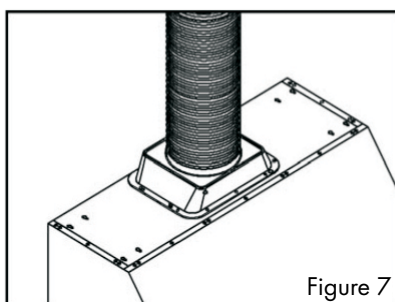

Figure 7
1. Once the hood is secure, attach the appropriate ducting for your hood to the ducting transition piece that was previously installed. See Figure 7 below.